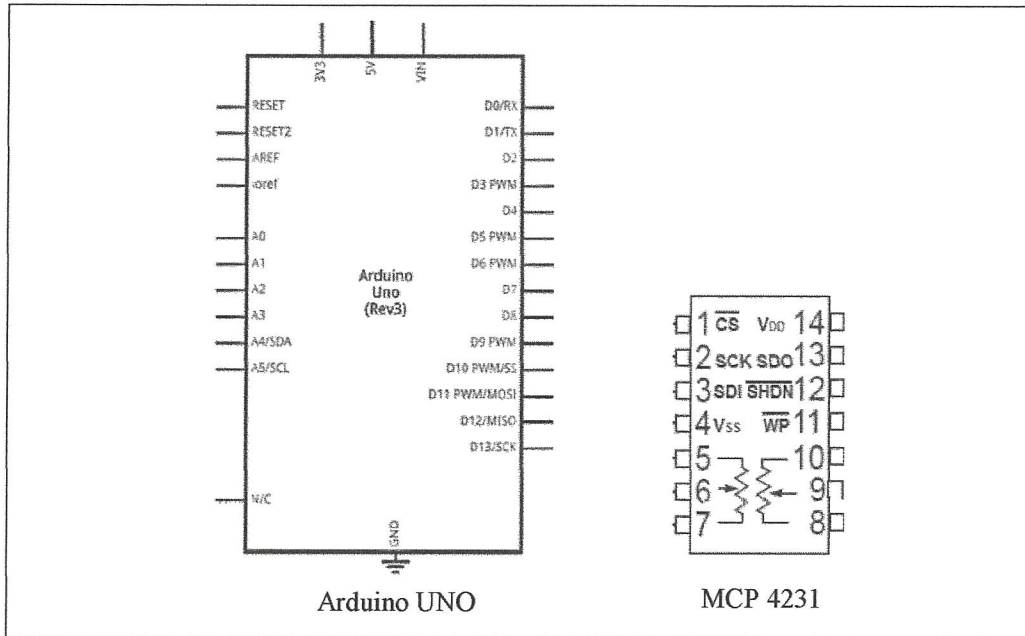

FIGURE Q1(c)(ii)
- (ii) Sketch the connection of Arduino UNO and two (2) MCP4231 SPI digital potentiometers. Let Arduino to be the master and the SPI devices to be slaves. Refer **Figure Q1(c)(ii)** for pin configuration of Arduino UNO and MCP4231.